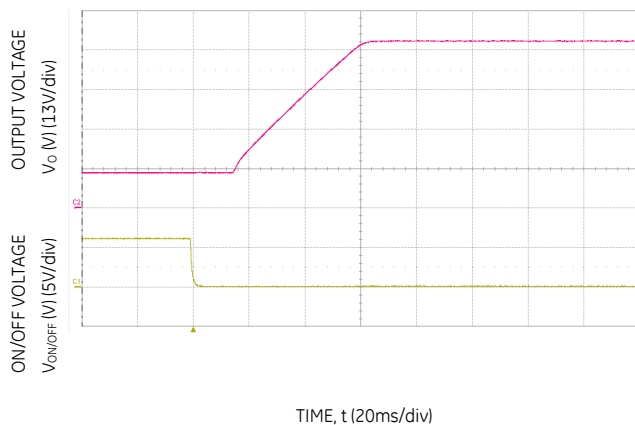

Figure 23. Typical Start-up Using On/Off Voltage ($I_o = I_{o,max}$).
3. Please note because of the specific design of the BOOST topology, the input voltage will present on the output when the input voltage is applied. This will occur even when the unit is in its "OFF" State. When the module is turned ON, the output voltage will start to rise from V_{in} level and not 0V. When turning off, the output will only drop back to V_{in} (If V_{in} is still present). Please refer to Figure 23 for typical start-up waveform using Remote ON/OFF. it shows the V_{in} level present prior to turning the module "ON"
When the module is turned ON, the output voltage will start to rise from Vin level and not 0V. When turning off, the output will only drop back to Vin (If Vin is still present). Please refer to Figure 23 for typical start-up waveform using Remote ON/OFF. it shows the Vin level present prior to turning the module “ON”